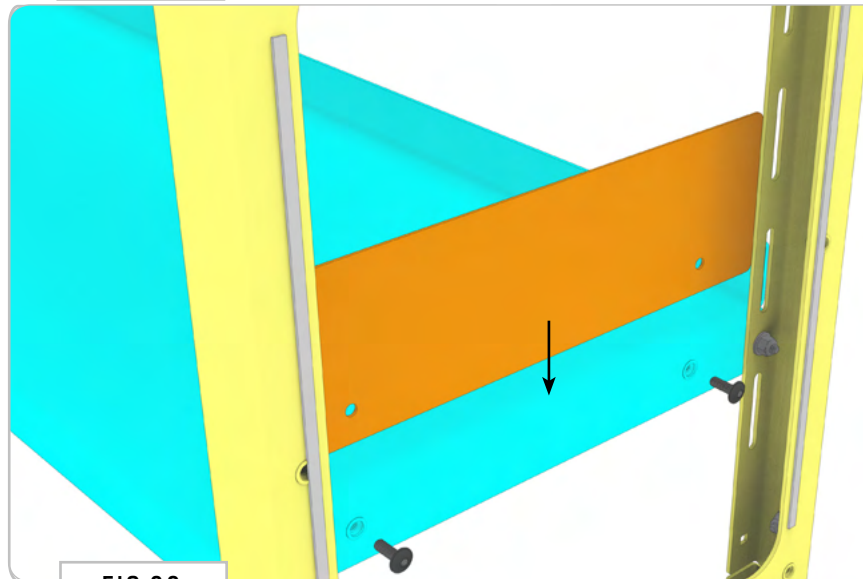

FIG 30
**2.12 Install Shelf Side Plates:** Attach the **Shelf Side Plates** to the pre-threaded holes of the **Cabinet Shelf Assembly** using (2ea) 1/4-20 x 0.75 Flanged Button Head Screws (FIG 30).